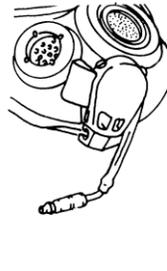

Figure 3b
- (3) Pull the quick connect coupling out of the outlet valve cover (See fig. 3b)